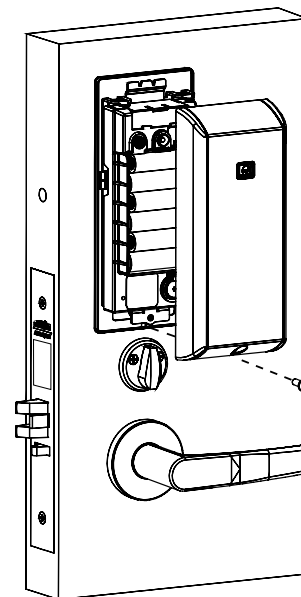

Fig. 19
3. Fully secure cover by tightening the security screw at bottom of cover (Fig.19), utilizing the security allen wrench.